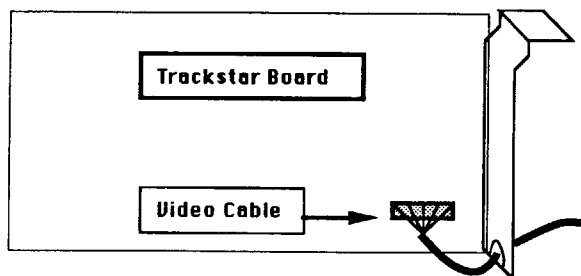

Figure 5
5. Plug the Trackstar board into the slot. Then, put the screw through the Trackstar board bracket to the chassis. See Figure 5.